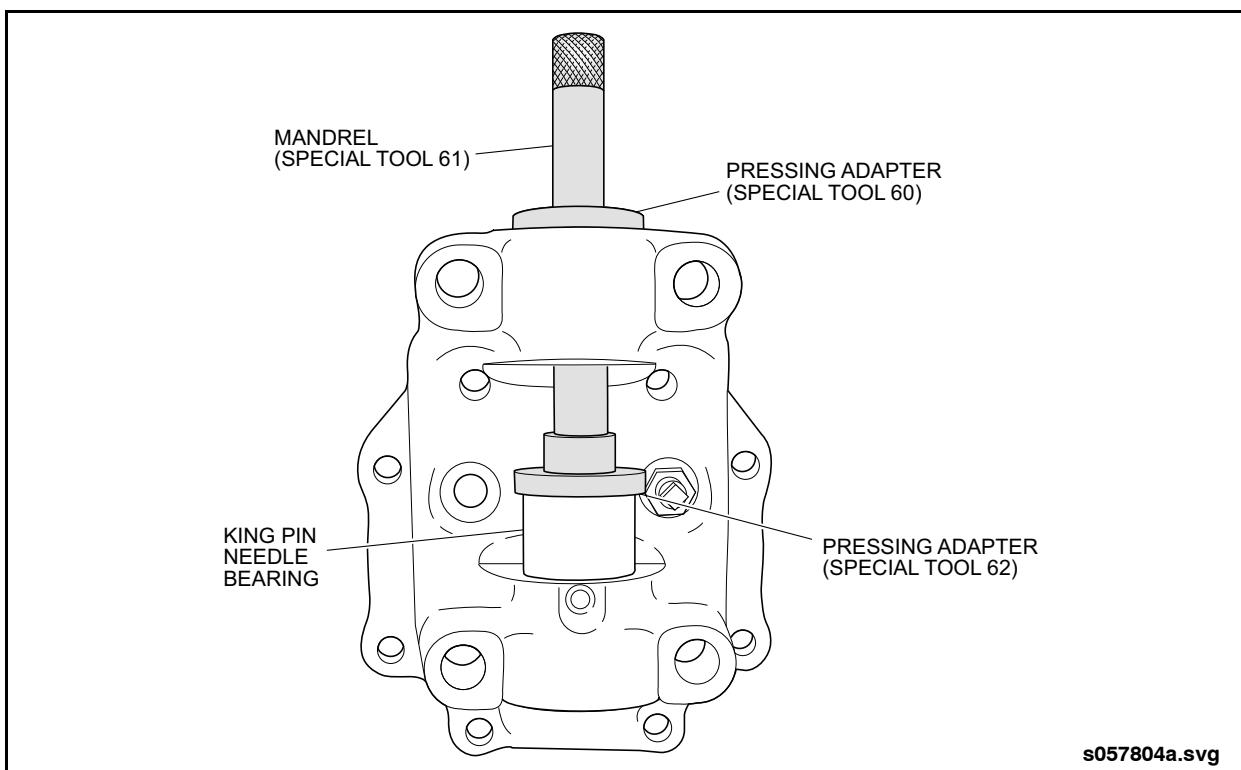

Fig. 1-32: King Pin Needle Bearing Installation
3. Slide short end of pressing mandrel (Item 61 from special tools list) through bore of knuckle and into larger end of pressing adapter (Item 62 from special tools list). **See "Fig. 1-32: King Pin Needle Bearing Installation" on page 32.**